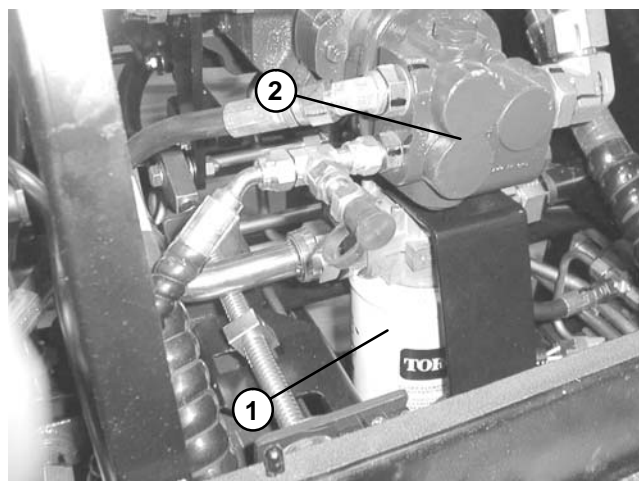

Figure 95
2. Clean area around filter mounting area (Fig. 95). Place drain pan under filter and remove filter.